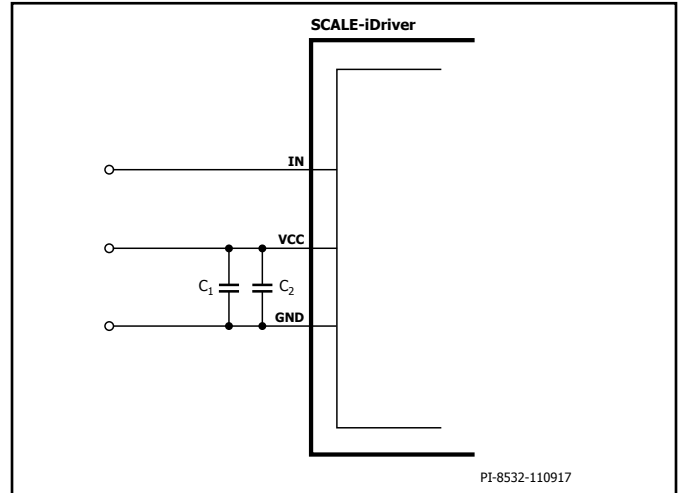
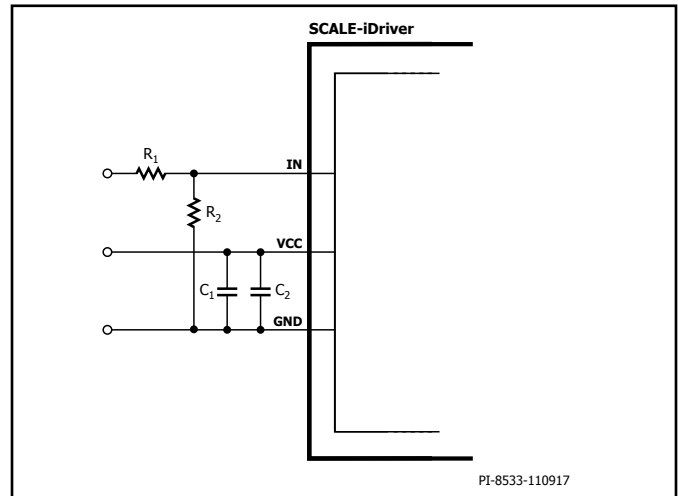
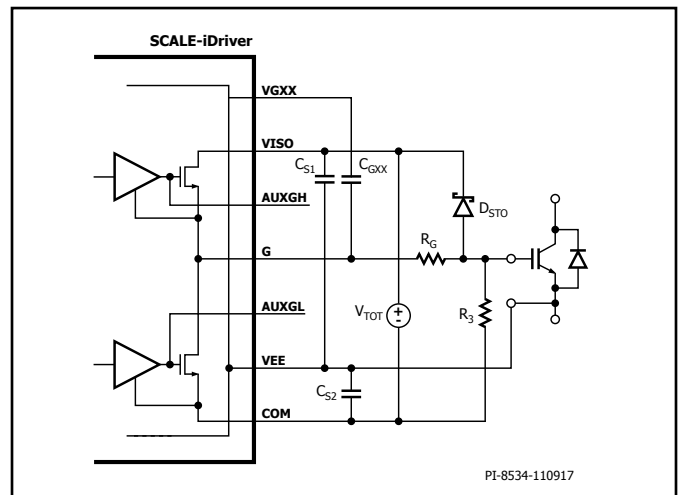
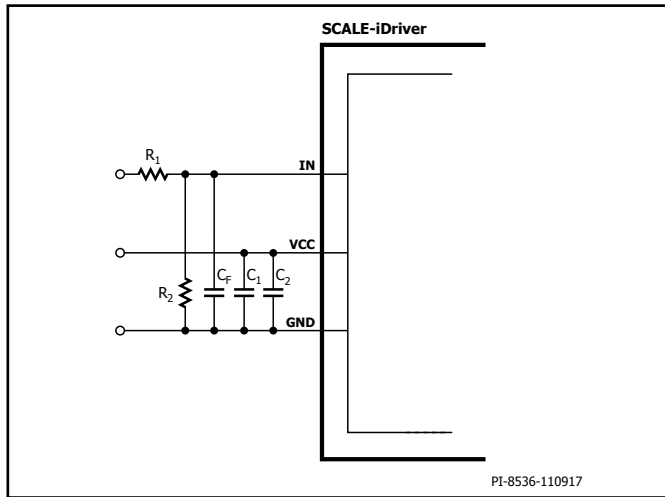

Figure 5. Recommended Circuitry for Standard 5 V IN Logic Level.
Figure 6. Recommended Circuitry for Increased IN Logic Levels. For  $R_1 = 3.3 \text{ k}\Omega$  and  $R_2 = 1 \text{ k}\Omega$  the IN Logic Level is 15 V.
Figure 7. SID1102K without External Booster Stage.
Figure 8. Optional Input Signal Filtering.
The input (IN) logic is designed to work directly with micro-controllers using 5 V CMOS logic. If the physical distance between the controller and the SCALE-iDriver is large or if a different logic level is required, the resistive divider in Figure 6 is recommended. This solution adjusts the logic level as necessary and will also improve the driver's noise immunity.
The gate of the power semiconductor switch should be connected to the SCALE-iDriver output via pin G, using suitable gate resistor  $R_G$  as shown in Figure 7.
It is recommended during power-up and power-down that the IN pin stays at logic low. Any supply voltage related to VCC, VISO, VEE and VGXX pins should be stabilized using ceramic capacitors  $C_1$ ,  $C_2$ ,  $C_{S1}$ ,  $C_{S2}$ , and  $C_{GXX}$  respectively as shown in Figure 5 and Figure 7. After supply voltages reach their nominal values, the driver will begin to function after a time delay  $t_{START}$ .
Figure 5 and Figure 7 show the primary-side and secondary-side schematic and typical components used for SID1102K design without a booster stage, in which the primary-side supply voltage ( $V_{VCC}$ ) will be connected between VCC and GND pins and supported through supply bypass ceramic capacitors  $C_1$  (4.7  $\mu$ F typically) and  $C_2$  (470 nF typically). If the command signal voltage level is higher than the rated IN pin voltage, a resistive voltage divider should be used (Figure 6). Additional capacitor  $C_F$  can be used to provide input signal filtering as shown in Figure 8. The filter time  $\tau$  can be calculated according to equation (1):
To avoid parasitic power-switch-conduction during system power-on the gate is connected to COM through 22 k $\Omega$  resistor  $R_3$  as shown in Figure 7.
The primary-side can be setup identical as described in the previous section referring to Figure 5 or Figure 6 or Figure 8.